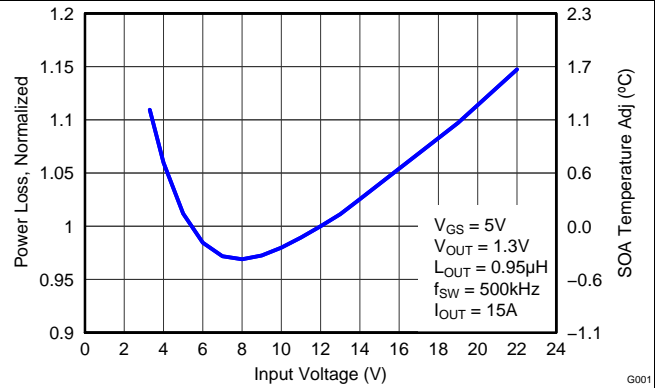

Figure 6. Normalized Power Loss vs Input Voltage
- Normalized Power Loss for input voltage ≈ 1.06 (Figure 6)
- SOA adjustment for input voltage $\approx 0.7^\circ\text{C}$ (Figure 6)